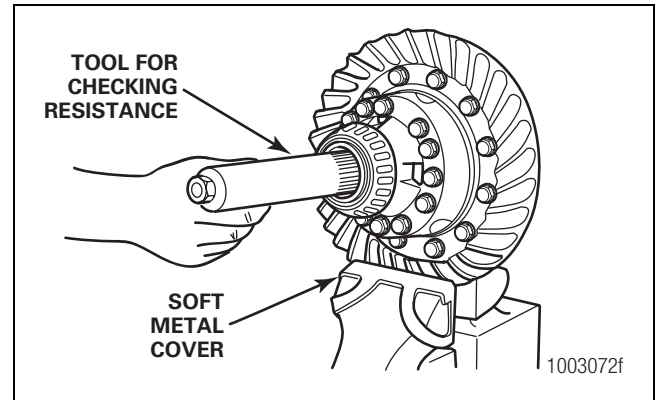

Figure 5.28
2. Place the differential and ring gear assembly into a vise. Install soft metal covers over the vise jaws to protect the ring gear. Figure 5.28.
3. Install the tool into the differential until the splines of the tool are engaged with one side gear. Figure 5.28.